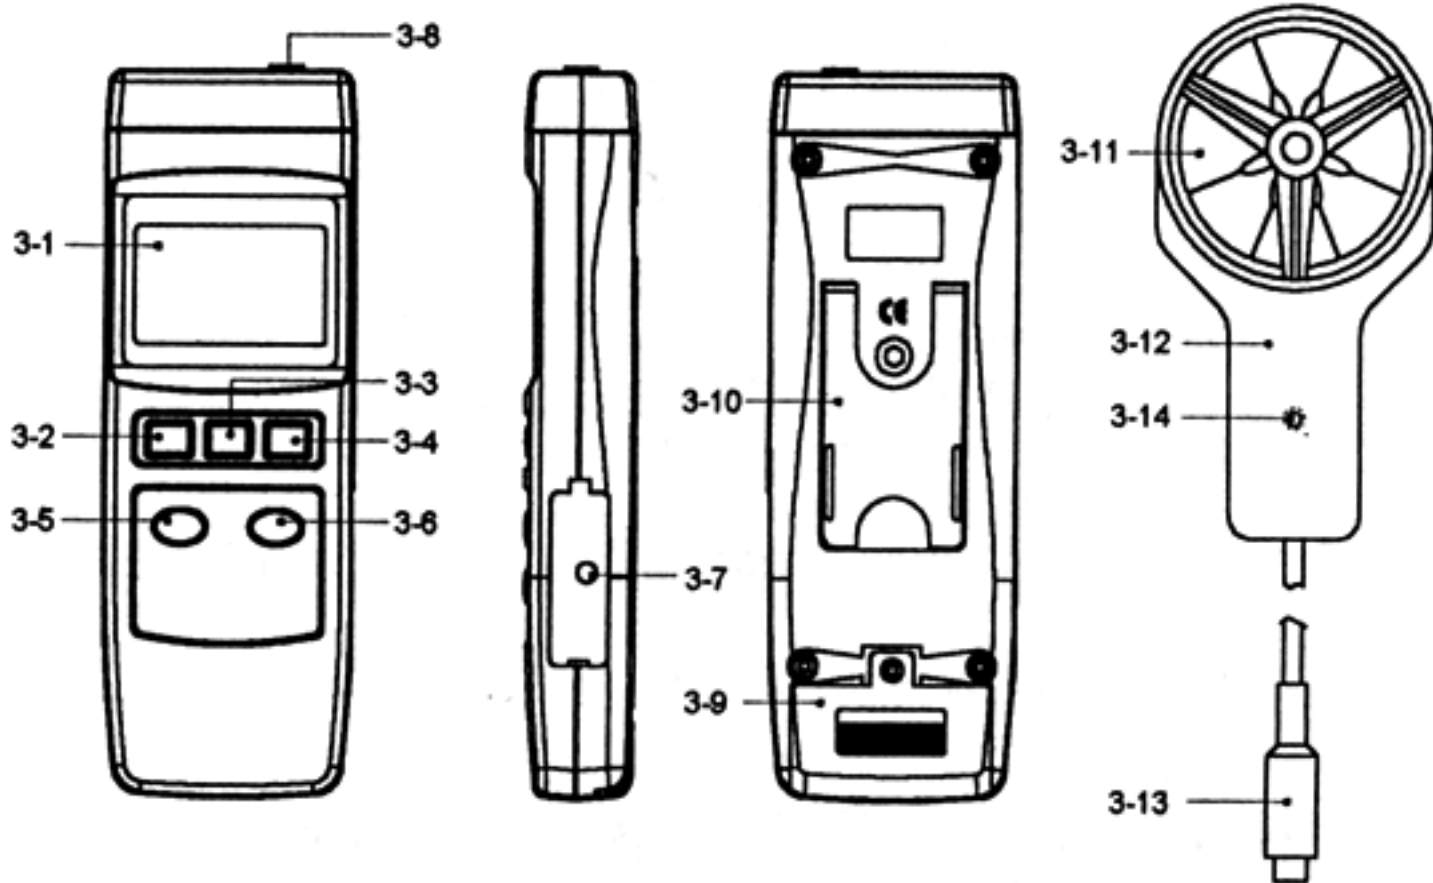

Fig. 1
- 1) Install the " Probe Plug " (3-13, Fig. 1) into the " Input Socket " (3-8, Fig. 1).
- 2) Power ON the meter by pressing the " Power Button " (3-2, fig. 1).
- 3) a. Select the desired air velocity unit (m/s, km/h, mph, knots, ft/min) by pusing the " unit Button " (3-5, fig. 1).
b. Select the desired temperature units by pusing the " °C/°F Button " (3-6, fig. 1).
- 4) Use the hand (or tripod installation) to hold the " Probe Handle " (3-12, Fig. 1), face the " Vane Probe Head " (3-11, Fig. 1) to the measured wind. In the same time the air velocity and the temp. value will show on the LCD display.
- a. During the measurement, pushing the " Data Hold Button " (3-3, Fig. 1) will hold the measured value & the LCD will indicate " HOLD " symbol.
- a. The data record function records the maximum and minimum readings. Press the " REC. Button " (3-4, Fig. 1) to start the Data Record function and there will be a " REC " symbol on the display.
- * Press the " REC Button " (3-4, Fig. 1) once, the " REC Max " symbol along with the maximum value will appear on the display.
If intend to delete the maximum value, just press " Hold Button " (3-3, Fig. 1) for a while, and then the display will show the " REC " symbol only & execute the memory function continuously.
- * Press the " REC. Button " (3-4, Fig. 1) again, the " REC Min " symbol along with the minimum value will appear on the display.
If intend to delete the minimum value, just press " Hold Button " (3-3, Fig. 1) for a while, and then the display will show the " REC " symbol only & execute the memory function continuously.
To disable this function, Select the memory record function during the measurement by pressing the " REC. Button " (3-4, Fig. 1).
The instrument has RS232 PC serial interface via a 3.5 mm terminal (3–7, Fig. 1).
- 2) Slide the " Battery Cover " (3-9, Fig. 1) away from the instrument and remove the battery.